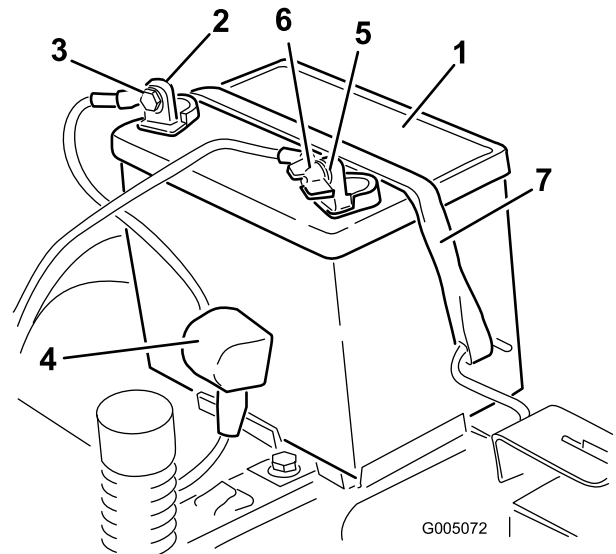

Figure 36
4. Disconnect the negative (black) ground cable from the battery post (Figure 36).
6. Disconnect the positive (red) cable from the battery post (Figure 36).
7. Remove the battery hold-down (Figure 36), and lift the battery from the battery tray.
1. Position the battery in the tray (Figure 36).
5. Secure the battery with the hold-down (Figure 36).